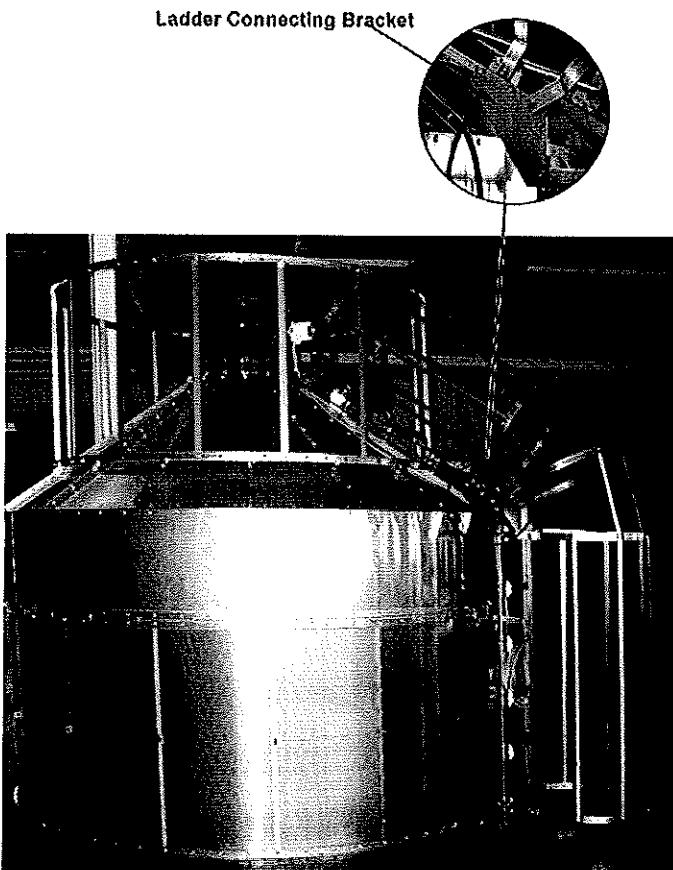

Figure 21
**NOTE:** All Ladder Safety Cages are assembled starting from the top of the tower and working down using the Cage Straps and Safety Cage Hoops. Use the 5/16-18 x 3/4" Grade #5 hex washer head bolts and whiz locknuts where only (2) pieces join and 5/16-18 x 1" bolts where (3) pieces are joined. See correct model layouts from pages 28-40
- The safety cage for the (1) 5 ft. ladder mounted on the roof and the (1) 6 ft. ladder bolted to the top 4 ft. screen section attached to the roof, require (2) hoops and (4) 4 ft. Cage Straps each. **See Figure 21.**